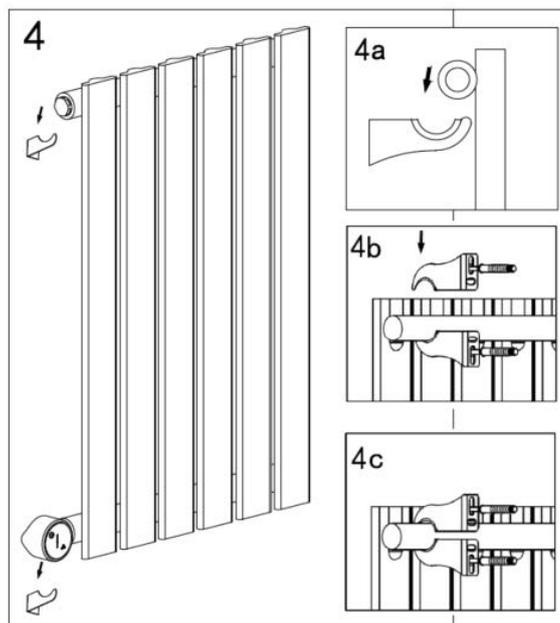

Figure 6 | Securing the radiator to the wall
- d. Using a 10mm drill bit, drill four holes in the marked locations and push the Wall Plugs (D) inside.
- e. Position the Brackets (A, B) over the holes and fix in place using the Washers (E) and Wall Screws (F).
5. The radiator is now ready to mount. You may choose to add the optional security bracket at this stage, see **Figure 6**.
- b. **OPTIONAL** – Position the remaining Bracket (A) pointing downwards above one of the top brackets, such that the radiator top bar is now locked in place. Mark the bracket location on the wall before lifting the radiator off the brackets.
- c. Use the 10mm drill bit to drill the marked bracket hole and push the remaining Wall Plug (D) inside. Replace the radiator, re-position the bracket and use the remaining Washer (E) and Wall Screw (F) to fix.